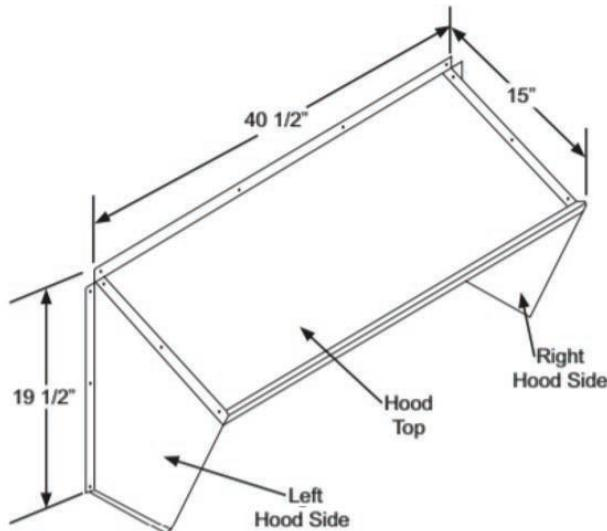

Fig. 23 — CRBARHOD001A00 Hood Sides and Top
5. Using the provided hardware, screw the CRBARHOD001A00 hood sides and top together (see Fig. 23).